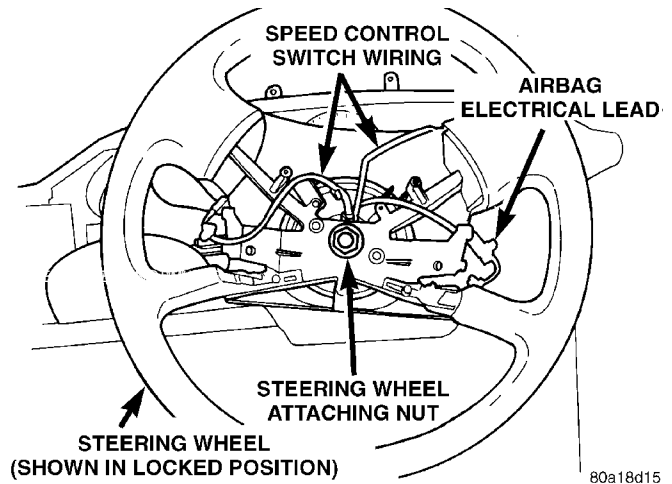

Fig. 12 Steering Wheel Attaching Nut
(9) Turn the lock cylinder to the **off** position and remove the key from the lock cylinder
(10) Turn the steering wheel to the left 1/2 a turn (180°) until the steering column lock is engaged (Fig. 12).
(11) Remove the steering wheel retaining nut, from the steering column shaft (Fig. 12).